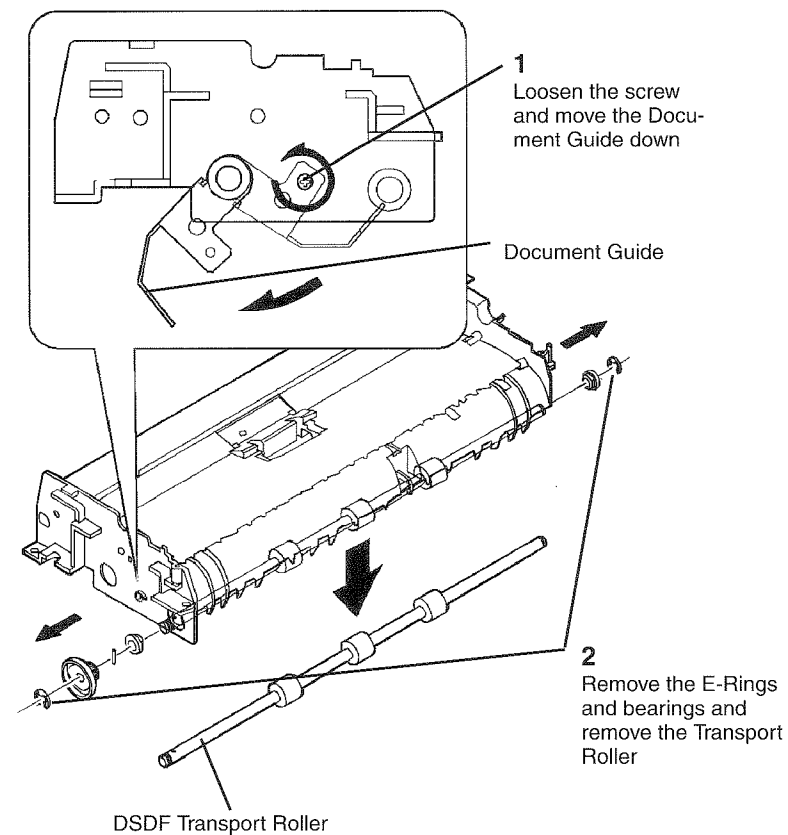

Figure 2 Removing the Duplex Transport Roller
4. ( Figure 2): Remove the DSDF Transport Roller